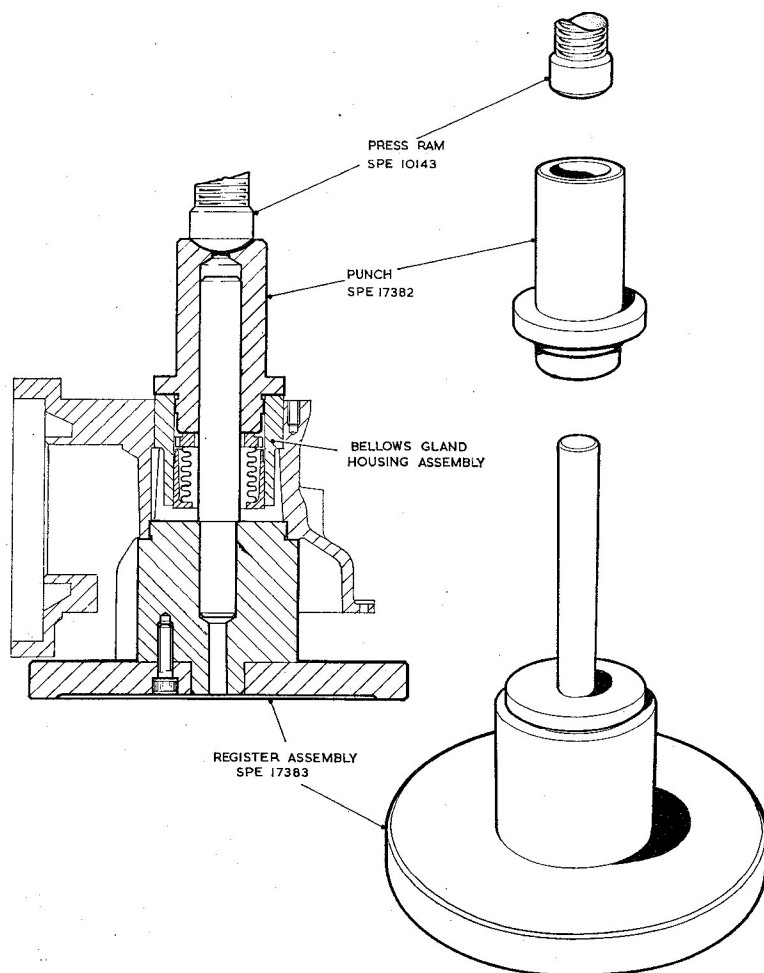

Fig. 22. Bellows gland housing assembly to pump casting
Fitting the bellows unit into the pump casing (fig. 22)
- (2) Use the tools illustrated in fig. 22 and press the housing into position; ensure that the shoulder on the housing abuts the shoulder in the pump casing. Wipe off any exuded jointing compound.